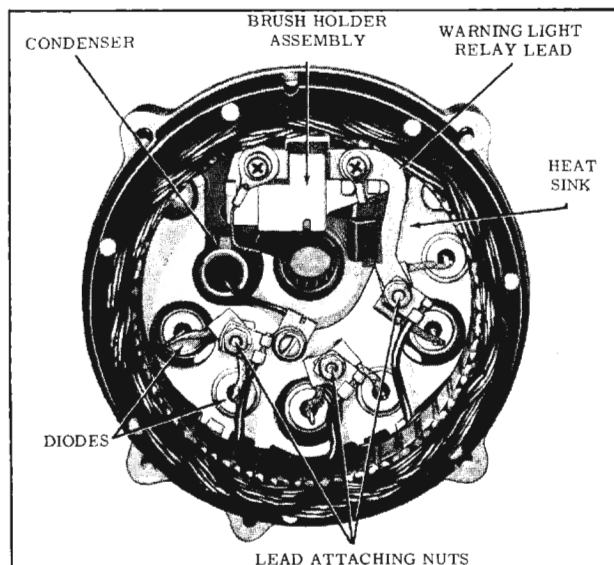

Fig. 14-26 Stator and Diode Leads
6. Position the stator into the slip ring end frame with the stator leads aligned with the stator and diode lead attaching studs. Before installing the attaching nuts, position the warning light relay lead over the diode lead attaching stud. Tighten all nuts. (Fig. 14-26)